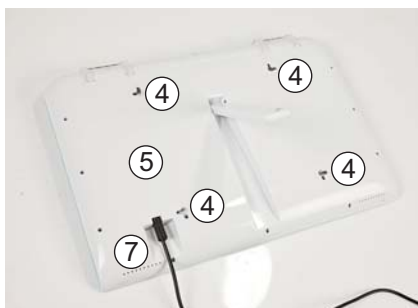

Fig. 2
- 1► The Luna X-Ray Viewer may be used on the table, where it offers three leaning angle adjustments or hanging on the wall through the back orifices in a vertical or horizontal position (Fig. 2);
Before contacting your local distributor or dealer for an estimate and eventual repair of your equipment, please, have in hand, the model of your equipment, voltage, serial number and the manufacturing date (found on the Identification Label located in the back of the equipment, as shown on Fig.2) and a description of the problem. It will be also necessary to have the original invoice from your dealer to confirm the date of purchase. In order to protect your rights, attach a copy of the invoice and send it to your dealer who will refer it to our company. Do not send products direct to any addresses mentioned in this manual. Always contact your local dealer.